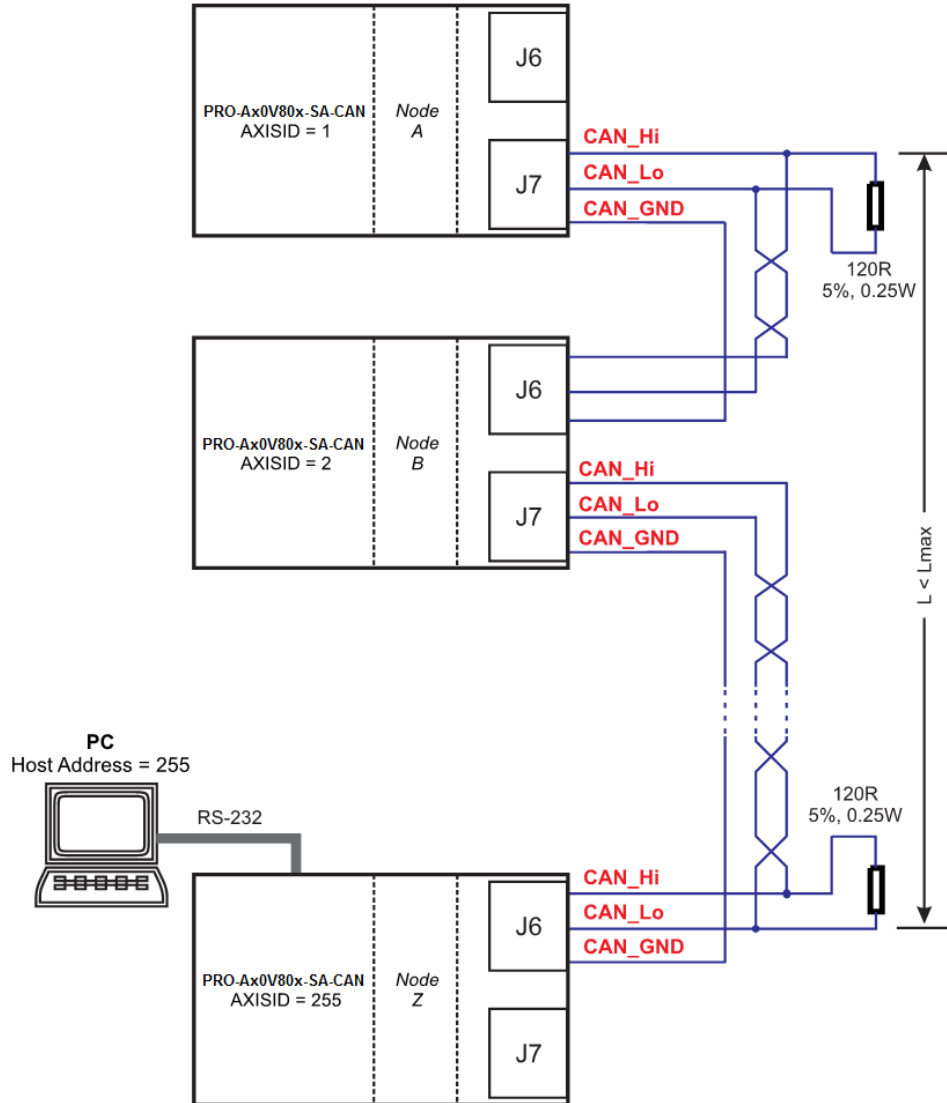

Figure 3.22. Multiple-Axis CAN network
1. The axis IDs in **Figure 3.22**, are valid for MPLCAN mode. For CANopen mode, the highest axis ID a drive can have is 127.